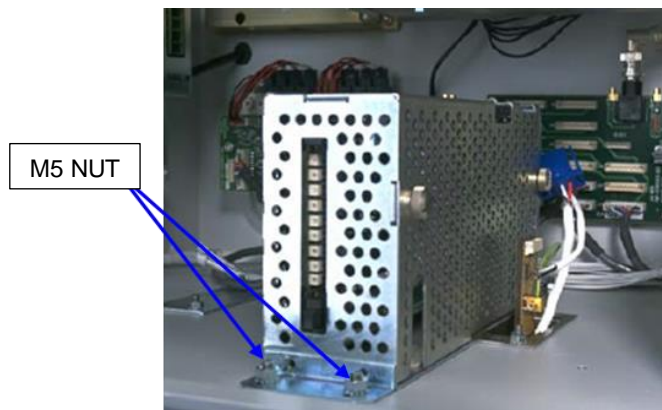

Figure 23. SNE Assembly Mounting Nut
2. Remove the 5mm nut (two nuts if old enclosed-style cage) from front SNE mounting housing; (Figure 23). If the new open housing has been installed, then only one of the bolts will fit through the new housing, and thus only one nut will need to be replaced.